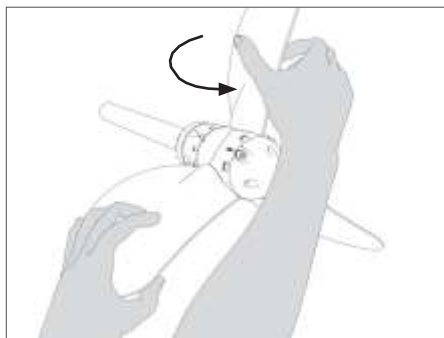

FIG. 22 Bring the blades to the feathering position
- Bring the blades to the feathering position (Fig. 22 - 23).